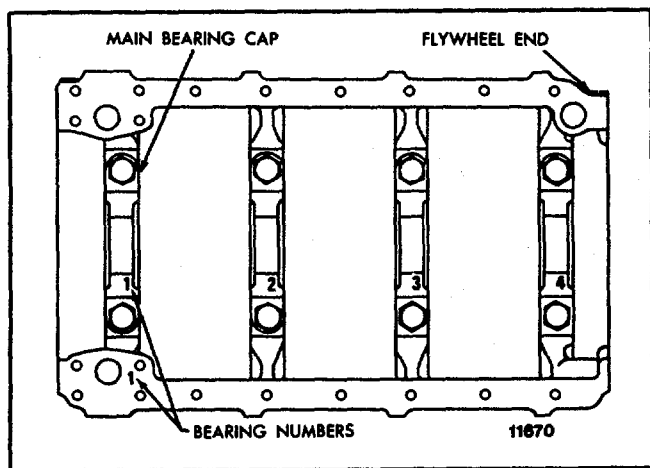

FIG. 15 - Cylinder Block Markings
- a. Check the bore diameters with the main bearing caps in their original positions. Bearing caps are numbered to correspond with their respective positions in the cylinder block. It is imperative that the bearing caps are reinstalled in their original positions to maintain the main bearing bore alignment. The number of the front main bearing cap is also stamped on the face of the oil pan mounting flange of the cylinder block, adjacent to its permanent location in the engine as established at the time of manufacture. The No. 1 main bearing cap is always located at the end opposite the flywheel end of the cylinder block (Fig. 15). Lubricate the bolt threads and bolt head contact areas with a small quantity of International Compound No. 2, or equivalent. Then install and tighten the bolts to 165-175 lb-ft (224-238 Nm) torque. When making this check, do not install the main bearing cap stabilizers. The specified bore diameter is 4.812", to 4.813". If the bores do not fall within these limits, the cylinder block must be rejected.
2. If a new service replacement block is used, stamp the engine serial number and model number on the right-hand side of the cylinder block. Also stamp the position numbers on the main bearing caps (Fig. 15) and the position of the No. 1 bearing on the oil pan mounting flange of the block.